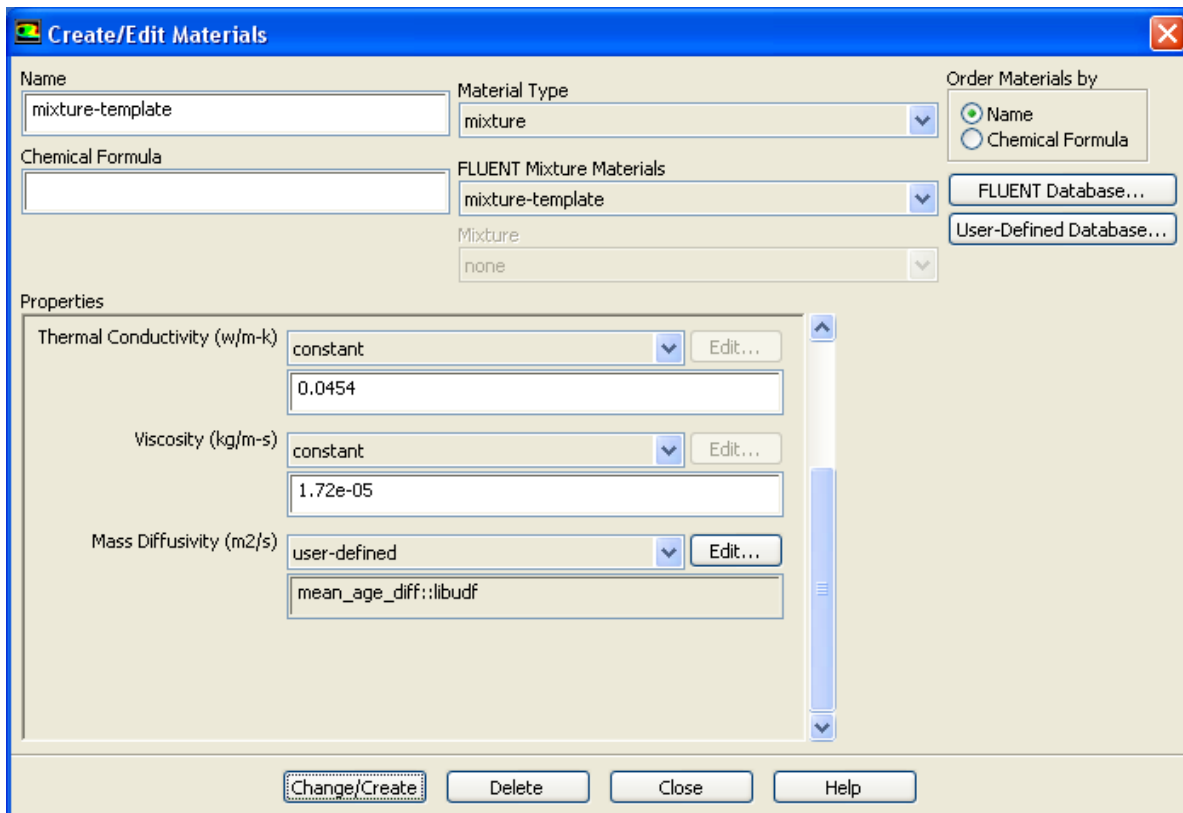
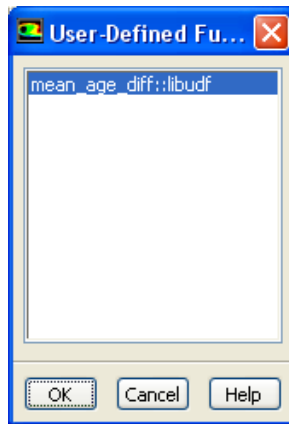

Figure 6.2.3: The Create/Edit Materials Dialog Box
Figure 6.2.4: The User-Defined Functions Dialog Box
Make a selection in the Materials list and click the Create/Edit... button to open the appropriate Create/Edit Materials dialog box (Figure 6.2.3).
- To hook a mass diffusivity UDF for the species transport equations, select **user-defined** from the Mass Diffusivity drop-down list of the Create/Edit Materials dialog box (Figure 6.2.3). The User-Defined Functions dialog box (Figure 6.2.4) will open.
Next, select the name of your UDF (e.g., `mean_age_diff::libudf`) in the User-Defined Functions dialog box that opens (Figure 6.2.4) and click OK. The name will then be displayed in the field below the UDS Diffusivity drop-down list in the Create/Edit Materials dialog box. Click Change/Create to save your settings.